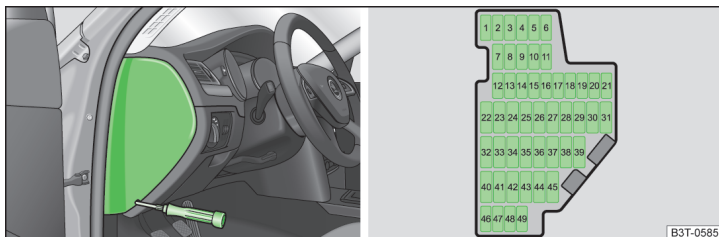

Fig. 196 Cover of the fuse box in the control panel / fuses
- Remove the cover. » Fig. 196